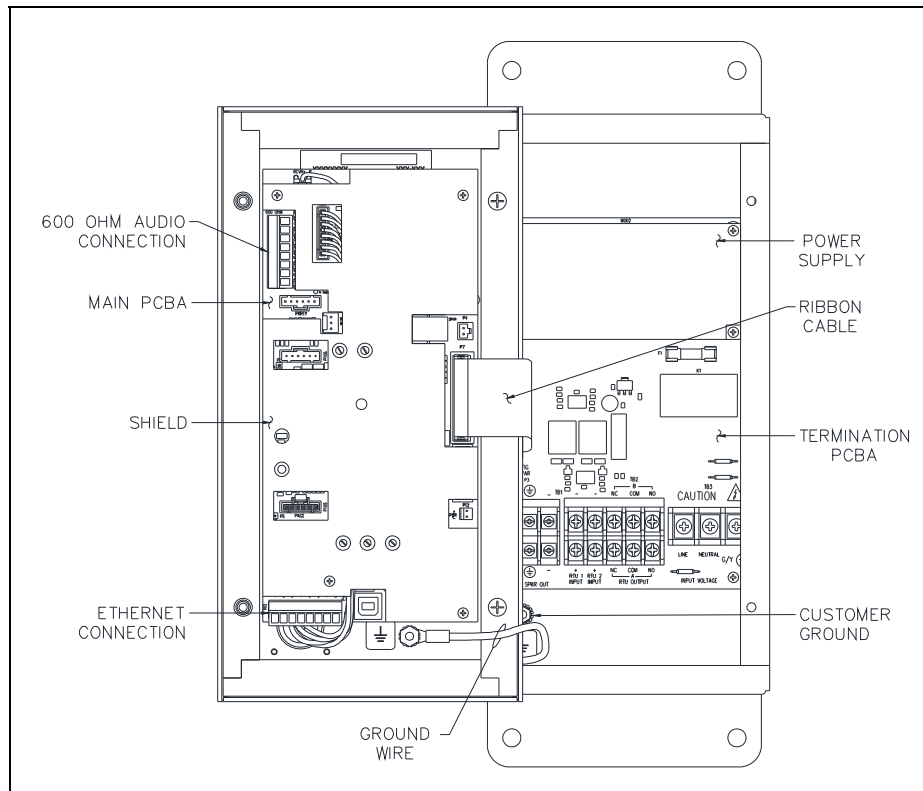

Figure 3. Class I Div. 2 SP2 Station—Interior View
2. Secure it to the ground terminal, located in the lower left corner, at the back of the rear enclosure (see Figure 3).